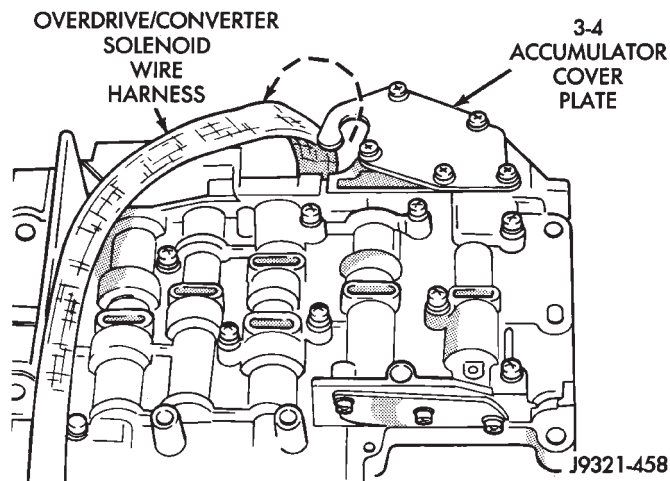

Fig. 45 Unhooking Solenoid Harness From Accumulator Cover Plate
(10) Unhook overdrive/converter solenoid harness from 3-4 accumulator cover plate (Fig. 45).